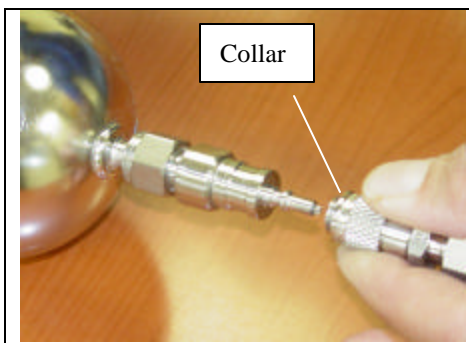

Fig 4: Quick Grab Sampling
- Hold can in other and face sampler tip into regulator (figure 4)